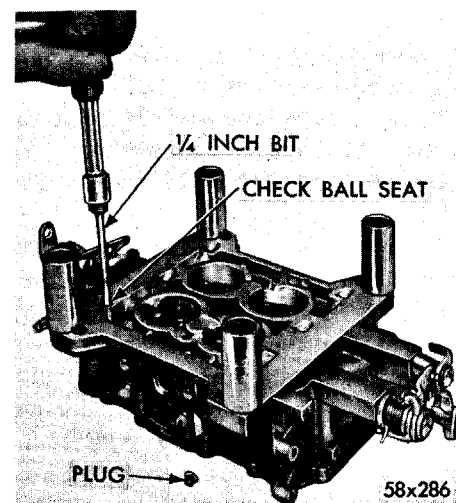

Fig. 7—Removing or Installing Accelerator Pump Intake Check Ball Seat
(6) Invert the main and throttle body casting, then remove the accelerator pump intake check ball plug. Using Tool T109-59, screw driver bit, remove the check ball seat, as shown in Figure 7. Again invert the body casting and drop out the intake check ball.
(7) Remove the two idle mixture adjusting screws and springs from the throttle body portion of the main casting.
curely, using Tool T-109-59. (Refer to Figure 7). Install screw plug and tighten securely.